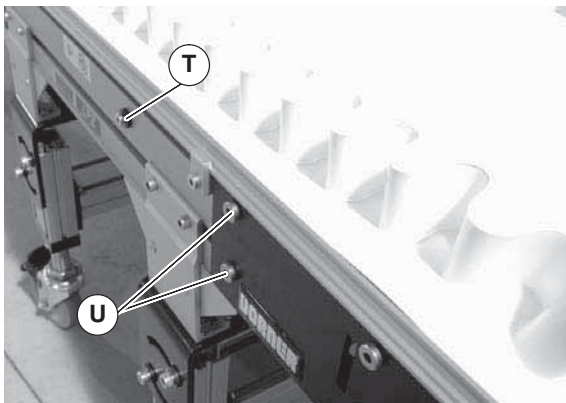
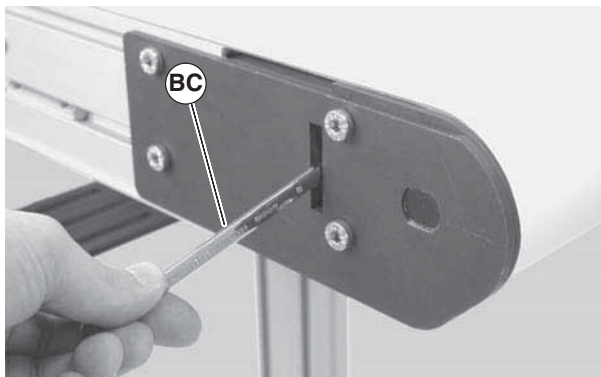

Figure 41
Figure 42
3. With the conveyor running, use wrench (Figure 41, item BC) to rotate the tracking screw (Figure 42, item BD) in small increments until the belt tracks in the center of the conveyor.